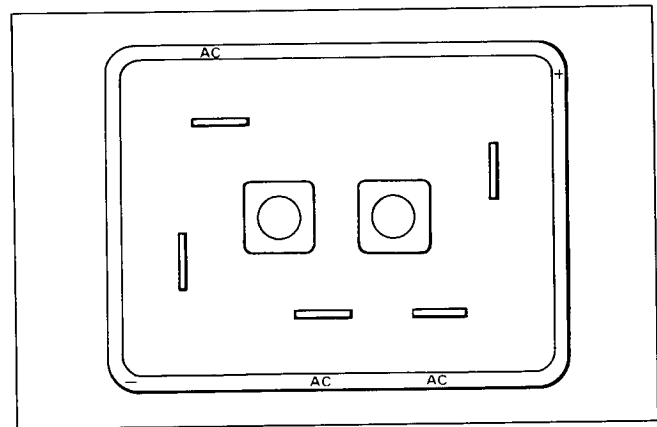

Figure 3-19. Mini-Bridge
1. Disconnect three AC leads from mini-bridge rectifier. See Figure 3-19.